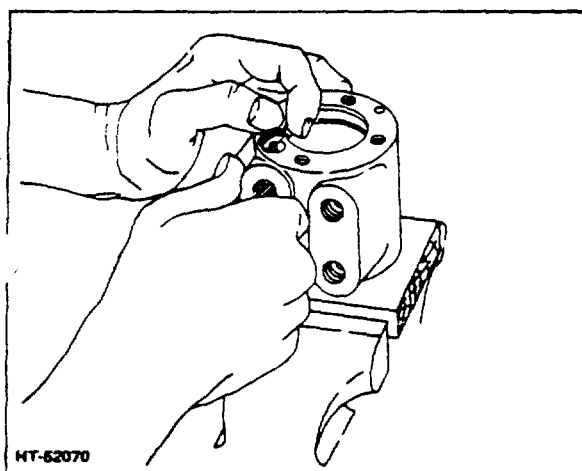

Figure 3-8. Removing Check Valve Seal Plug
14. With a small bent tool or wire, remove check valve seal plug from housing (Fig 3-8). Do not pry against edge of hole in housing bore.